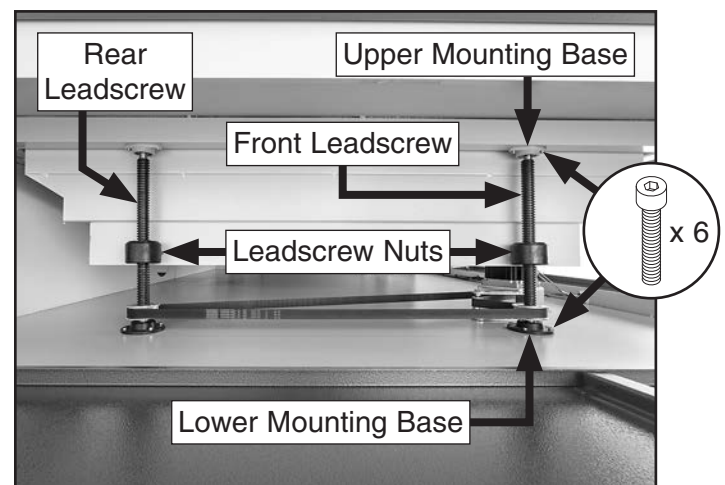

Figure 89. Leadscrew components location.
7. Remove (4) cap screws on front leadscrew lower mounting base (see **Figure 89**).
8. Remove (2) cap screws on front leadscrew upper mounting base (see **Figure 89**).